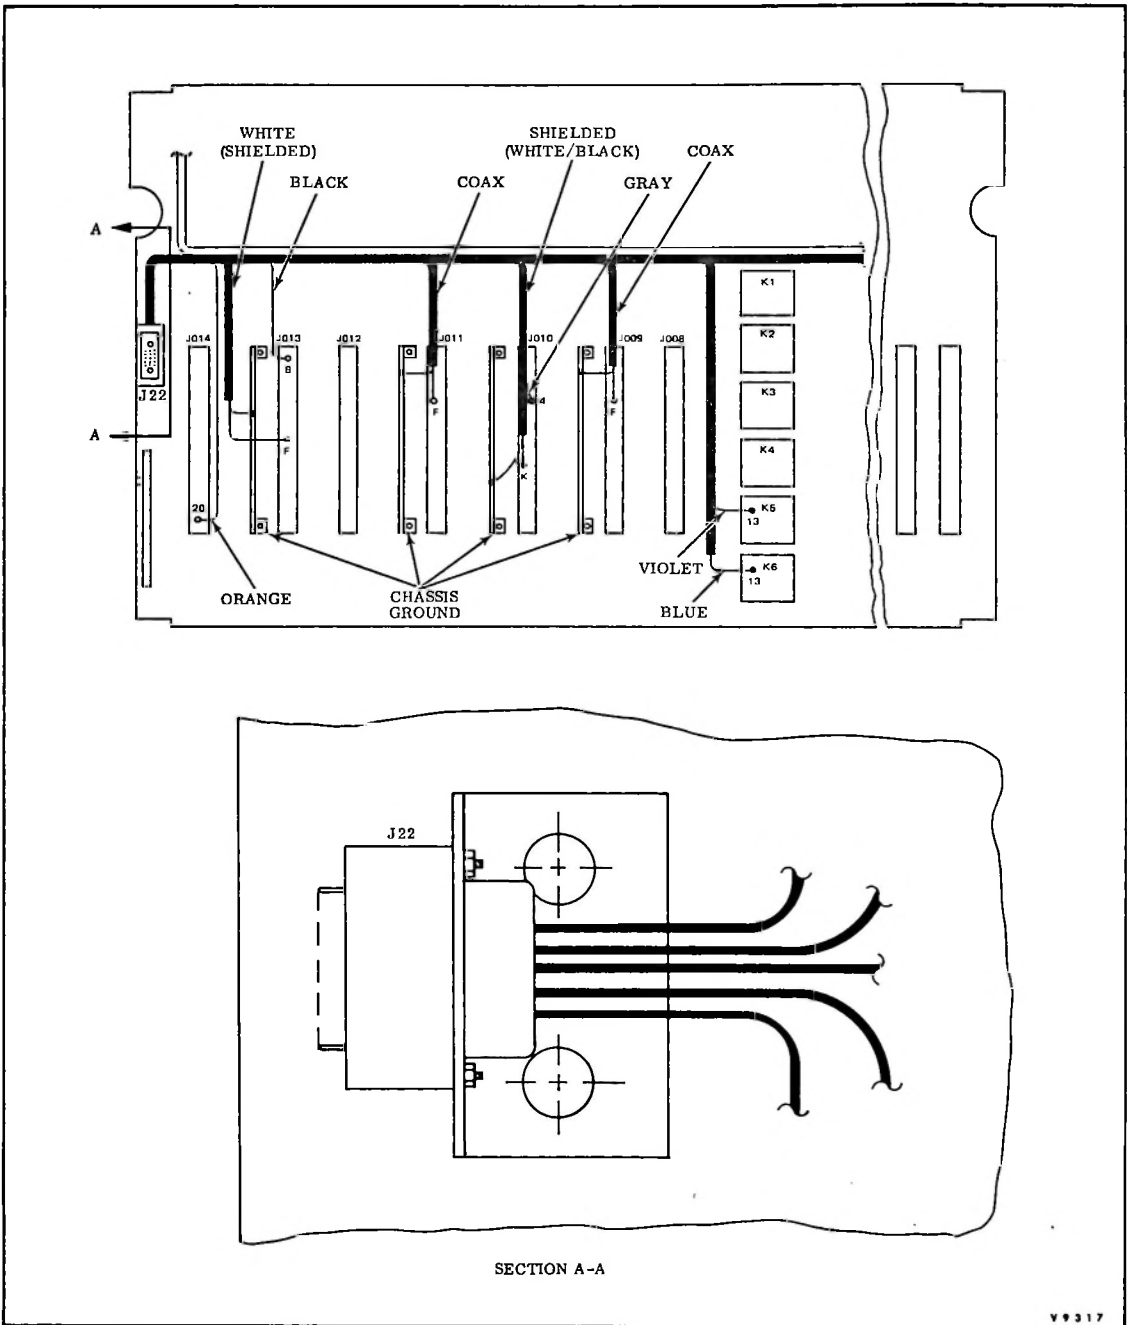

Figure 2-1. Servo Chassis Wiring and Harness
c. See Figure 2-1 for installation location of harness adapter receptacle J22.
i. Solder the wires to the terminals indicated in Figure 2-1.